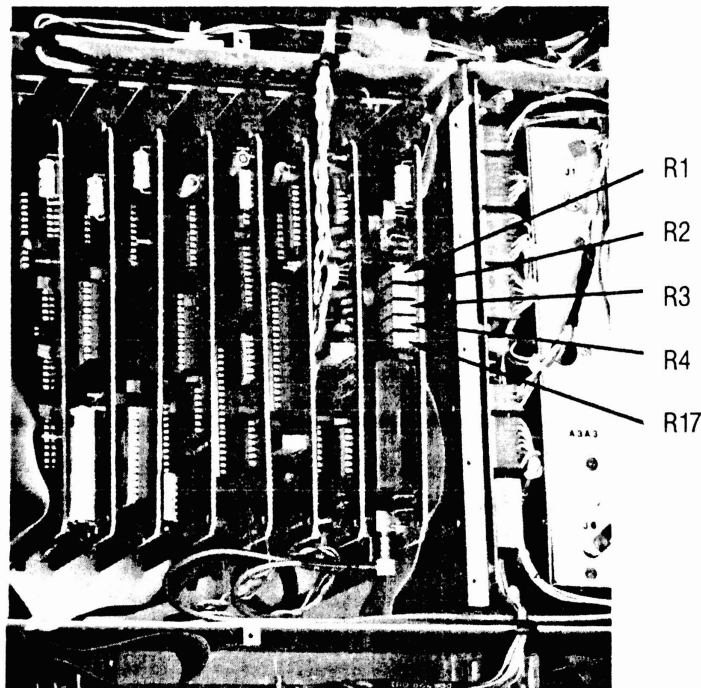

Figure 3-11. LOCATION OF POTENTIOMETERS ON A1A2A8
8. If necessary adjust resistor R1 on assembly A1A2A8 to obtain a voltage reading of exactly .072 volts from Test Point 3. See Figure 3-11 for the location of R1.
13. If necessary, adjust resistor R2 on assembly A1A2A8 to obtain a reading of 10.200 volts, $\pm .005$ volts. See Figure 3-11 for the location of R2.